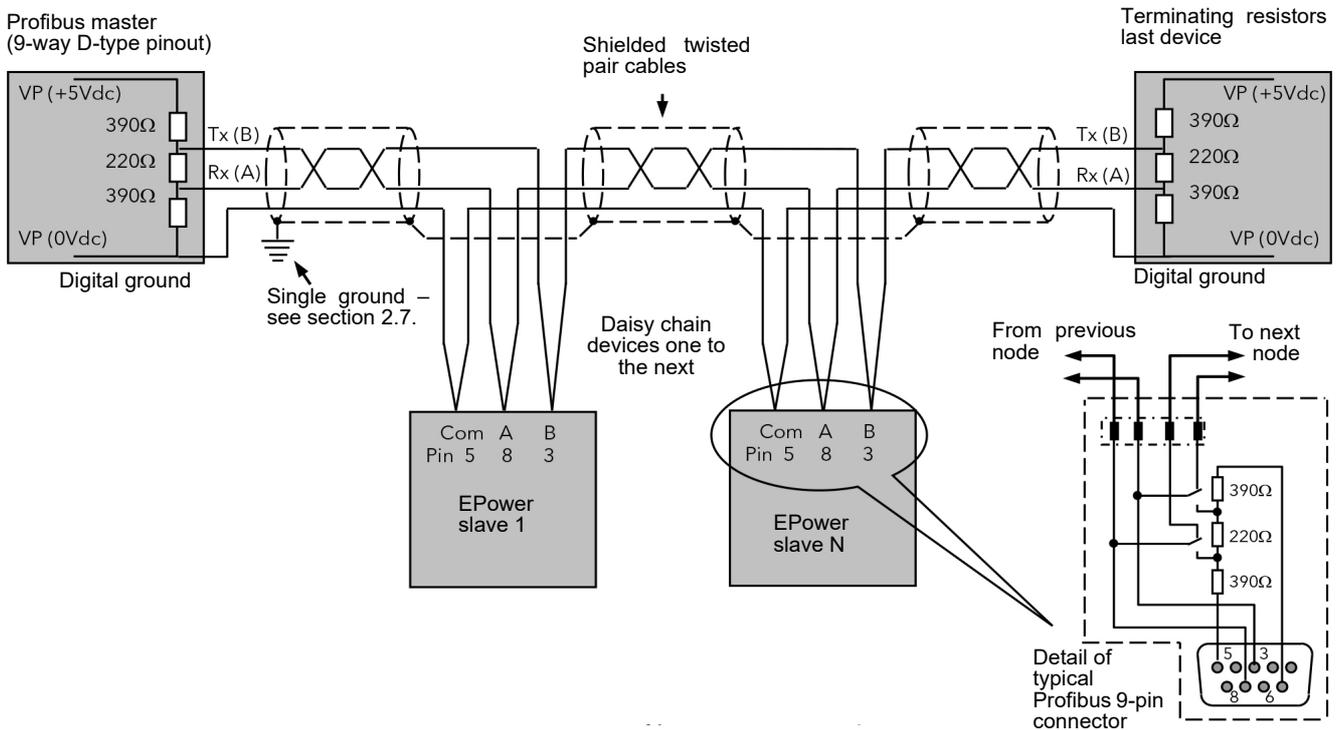

Figure 25 Profibus Wiring General
The wiring principles described in "Wiring General" on page 15 apply to Profibus. Line termination is different from standard EIA485 as shown in Figure 25.
6. Ensure that the final node on the transmission line (no matter what type of instrument it is) is terminated correctly using three resistors as shown in Figure 25, and that only the first and final nodes are so terminated.
4. Ensure that the final node on the transmission line (no matter what type of instrument it is) is terminated correctly using three resistors as shown in Figure 25, and that only the first and final nodes are so terminated.